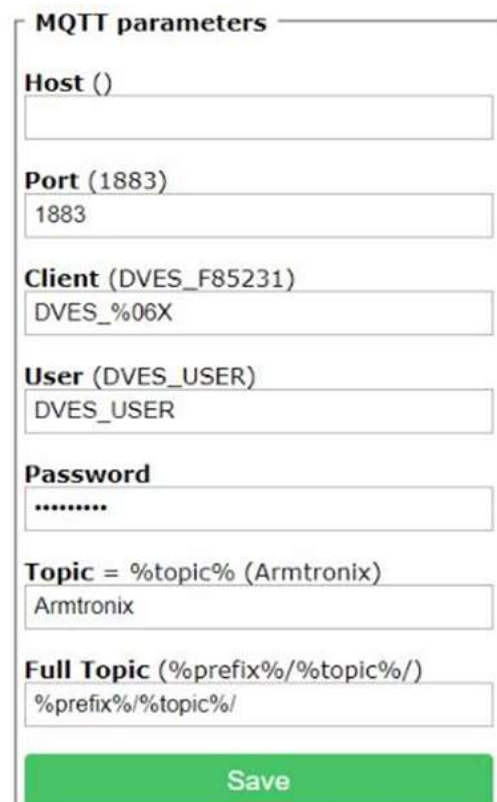

Figure 20: Option to enter required MQTT details
6. User shall click on the SAVE button as shown in figure 20 below, once after entering required details to get access to MQTT protocol from the web server.